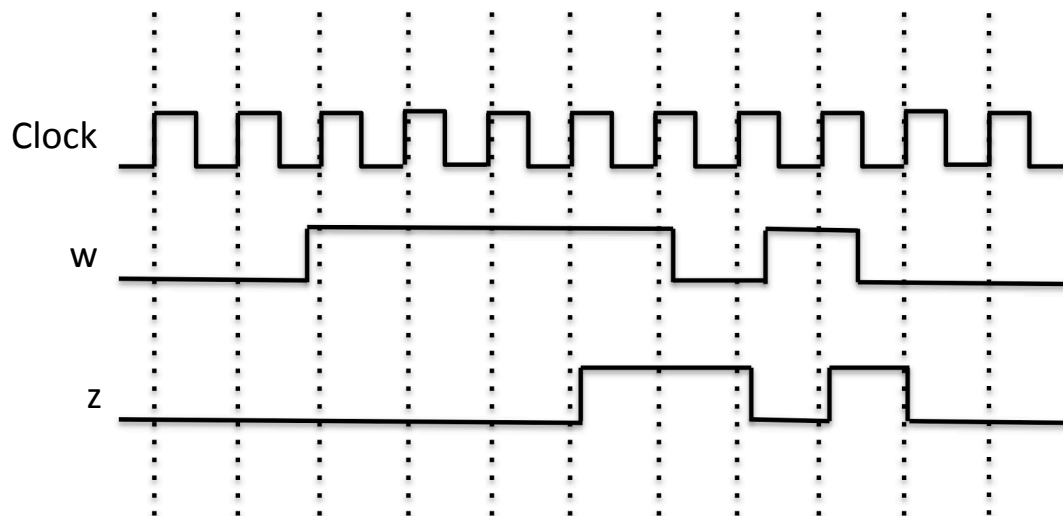
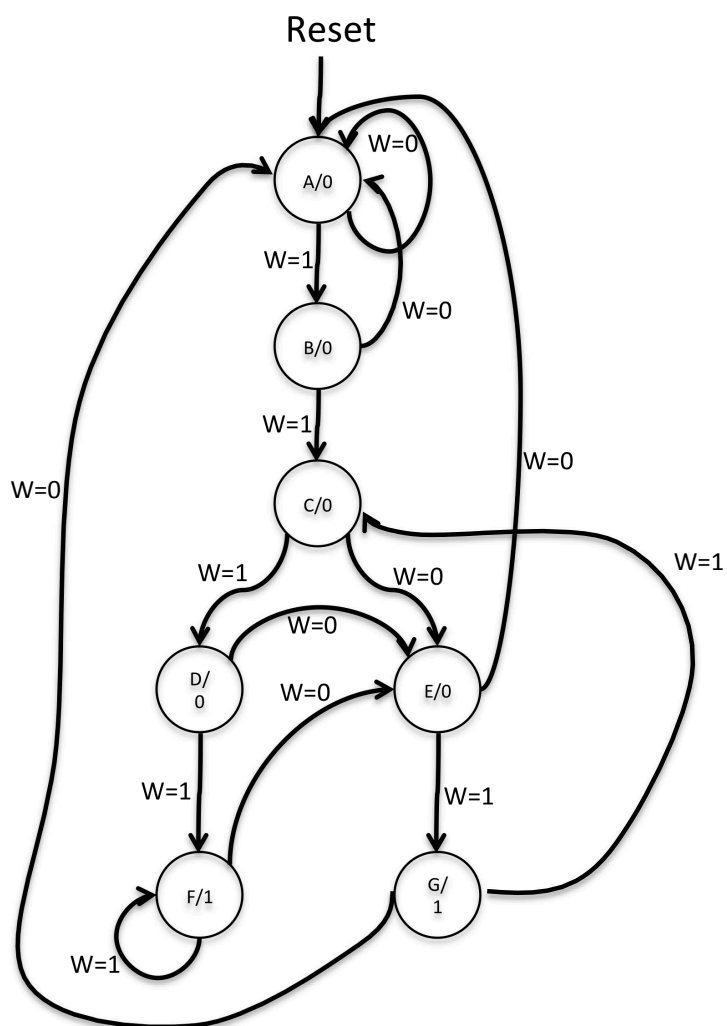

Figure 1: Required timing for the output  $z$ .
Figure 2: A state diagram for the FSM.
Given an input  $w$  and an output  $z$ , the output  $z$  is set to 1 whenever  $w = 1$  for four consecutive clock pulses, or when the most recent sequence on  $w$  was 1101 for the last four clock pulses. In all other cases, the output  $z = 0$ . Overlapping sequences are allowed, so that if  $w = 1$  for five consecutive clock pulses the output  $z$  will be equal to 1 after both the fourth and fifth pulse. Figure 1 illustrates the required relationship between  $w$  and  $z$ . A state diagram for this FSM is shown in Figure 2.
2. Before modifying the Logisim starter circuit, assign flip-flop values to each of the states in Figure 2 and create a state table that illustrates the state transitions in response to the input signal  $w$ .